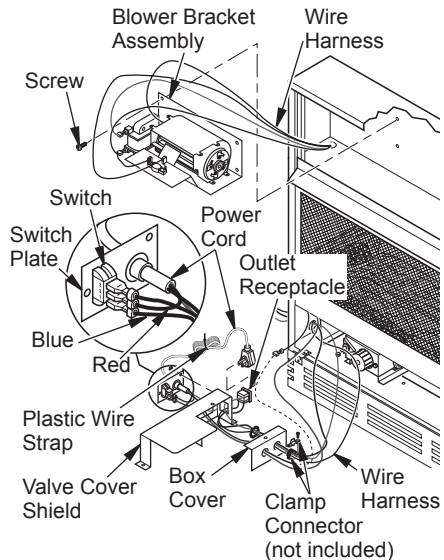

Figure 19 - Installing Blower Bracket Assembly
5. Plug power cord to the outlet receptacle (not provided) as shown in Figure 19. Wind the extra cable in power cord and tie it up with the plastic wire strap (see Figure 19). Set the cable bundle between the burner bracket and outer casing, away from the burner.